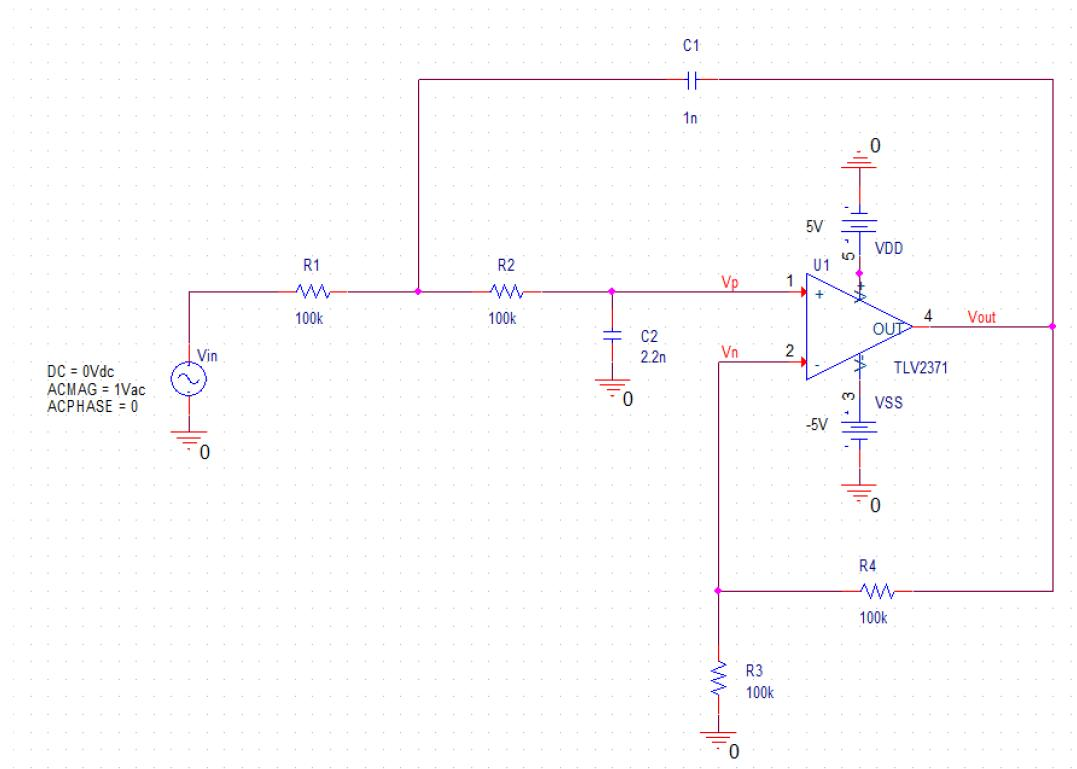

Fig. 5 Schematic diagram of the second-order low-pass filter
- 2.1 In PSpice, construct the second-order low pass filter (LPF) as shown in Fig. 5. using an operational amplifier TLV2371IP, four $100\text{ k}\Omega$ resistors, one 1 nF capacitor, and one 2.2 nF capacitor, respectively. Here, V_{in} provides the AC signal input for this second-order LPF. The DC and AC values of the AC voltage source V_{in} are set to 0 V and 1 V, respectively.
- 2.3 Based on Fig. 5, construct the measurement setup for the second-order LPF.